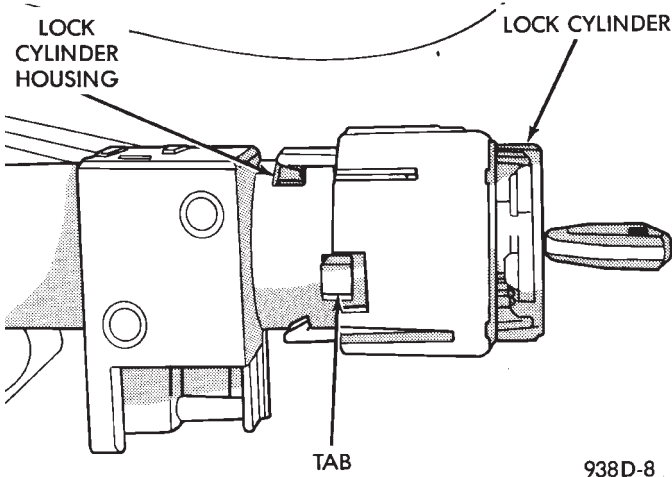

Fig. 9 Lock Cylinder Installation
(3) Align the lock cylinder with the grooves in the housing. Slide the lock cylinder into the housing until the tab sticks through the opening in the housing (Fig. 9).
(4) Turn the key to the Off position. Remove the key.
(5) If the vehicle has column shift and a new lock cylinder was used, install and adjust a new interlock cassette. Refer to Ignition Interlock in this section. If